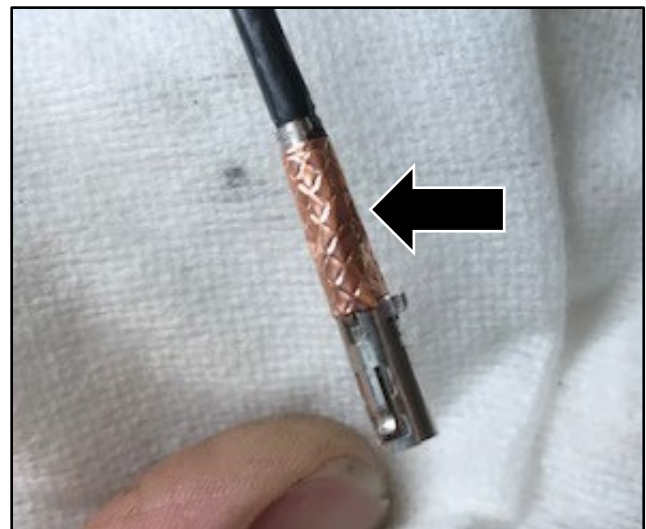

Figure 6
8. Install copper tape to the area shown (refer to Figure 6).